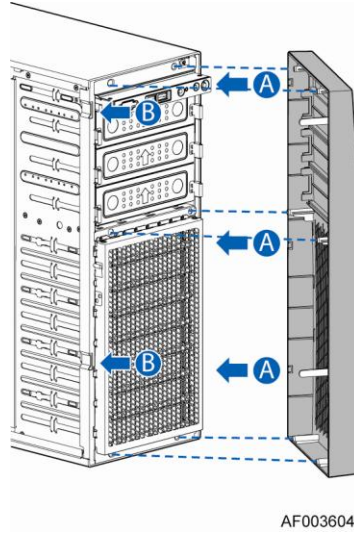

Figure 12. Installing the Front Bezel
2. Engage the plastic bezel hooks (see letter **A** in Figure 12) into the raised metal slots at the chassis edge.
4. Latch the two plastic tabs (see letter **B** in Figure 12) on the left side of the bezel assembly to the chassis.